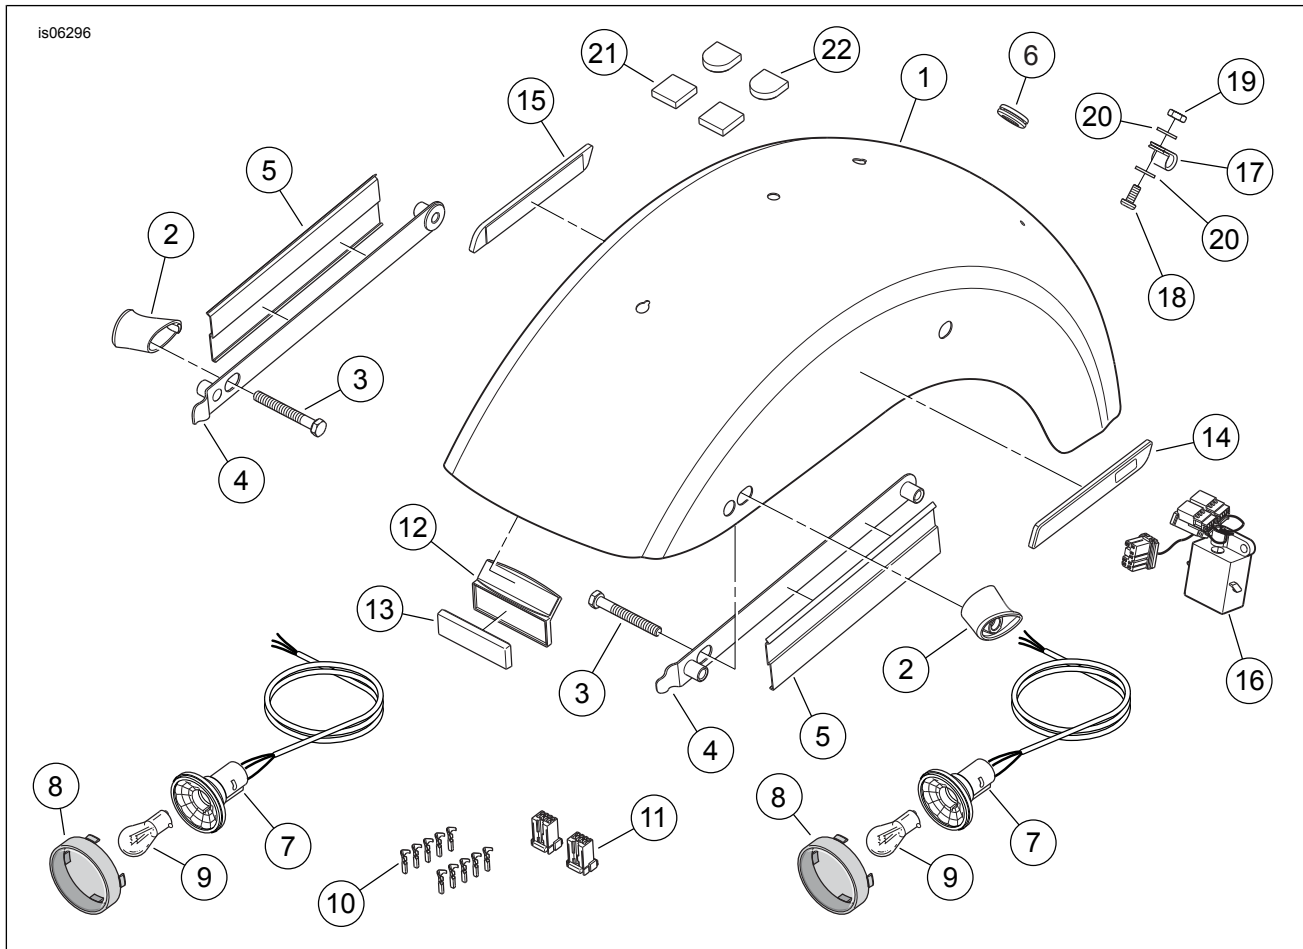

Figure 6. Service Parts, Dyna Chopped Rear Fender Kits
1. See Figure 6. Install the stop/tail/turn signal converter module (16) in the area under the seat as follows:
3. Follow the instructions in the service manual to crimp the six terminals (10) from the kit onto the STT wires. Insert the STT wiring socket terminals coming from one lamp into the correct cavities of one socket housing (11): Repeat for the remaining socket housing.
1. See Figure 6. Clean the rear underside of the fender, and the reflector mounting area of the reflector mounting block (12) with a mixture of 50-70% isopropyl alcohol and 30-50% distilled water. Allow to dry thoroughly.